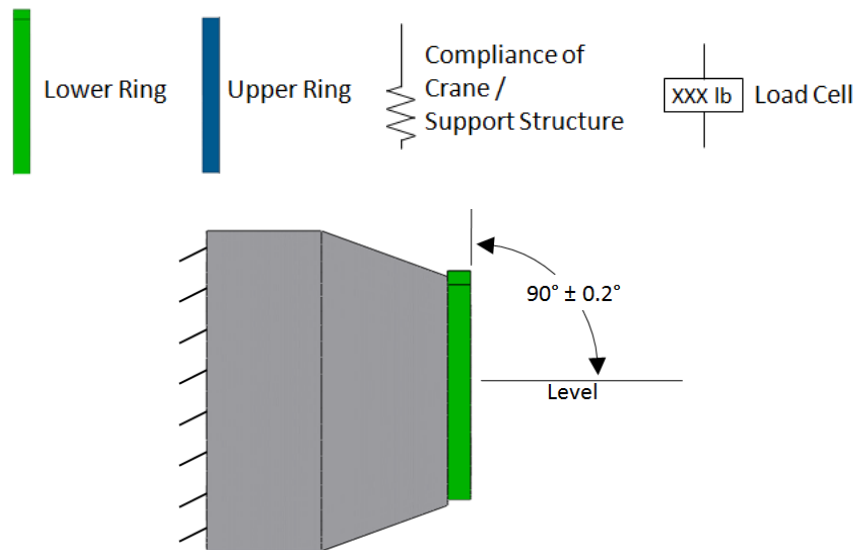
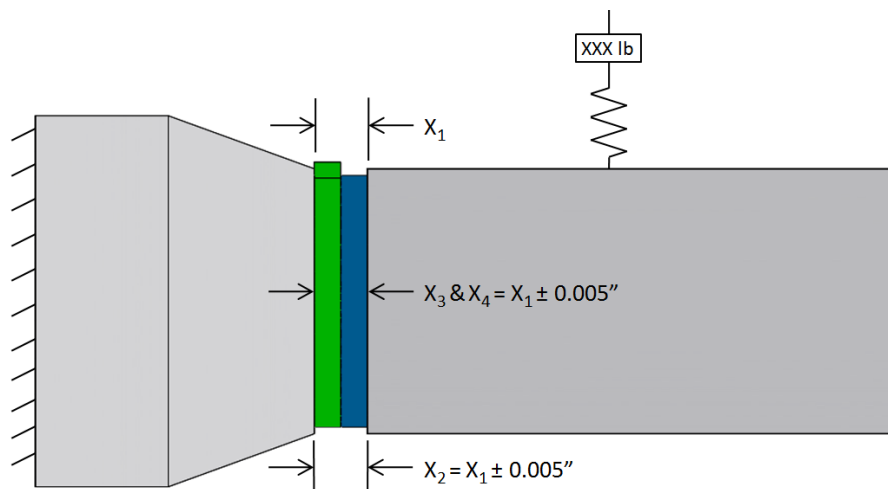

Figure 13-1: Verify Lower Ring is leveled prior to mating SV.
Figure 13-3: Verify parallelism of compressed Lightband.
13.1.2	The Lower Ring, mounted to the LV, shall be perpendicular to level within $\pm 0.2^\circ$. See Figure 13-1.
13.1.5	A load cell shall be installed in-line with the SV support structure. See Figure 13-1 and Figure 13-3.
13.1.10	Slowly compress the Lightband. See Section 18 if using LCTs. Continually monitor the load cell. It shall remain within 10 lb of the step 13.1.7 reading. When fully compressed, the distance between Lightband flanges shall conform to Step 8.1.14. Also verify that the flange distance at the top, bottom, left and right of the Lightband are within 0.005 inch of one another. See Figure 13-3. An improperly aligned SV may translate (up, down, left or right) or rotate (pitch, roll or yaw) during the Stow process, requiring additional power that the Lightband motors cannot generate. Proper alignment is essential.